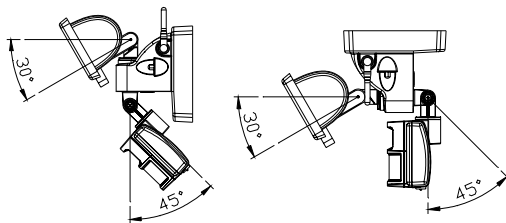

FIGURE 5
- The suggested swiveling angle of floodlight and PIR Camera are outlined hereunder: (FIGURE 5)